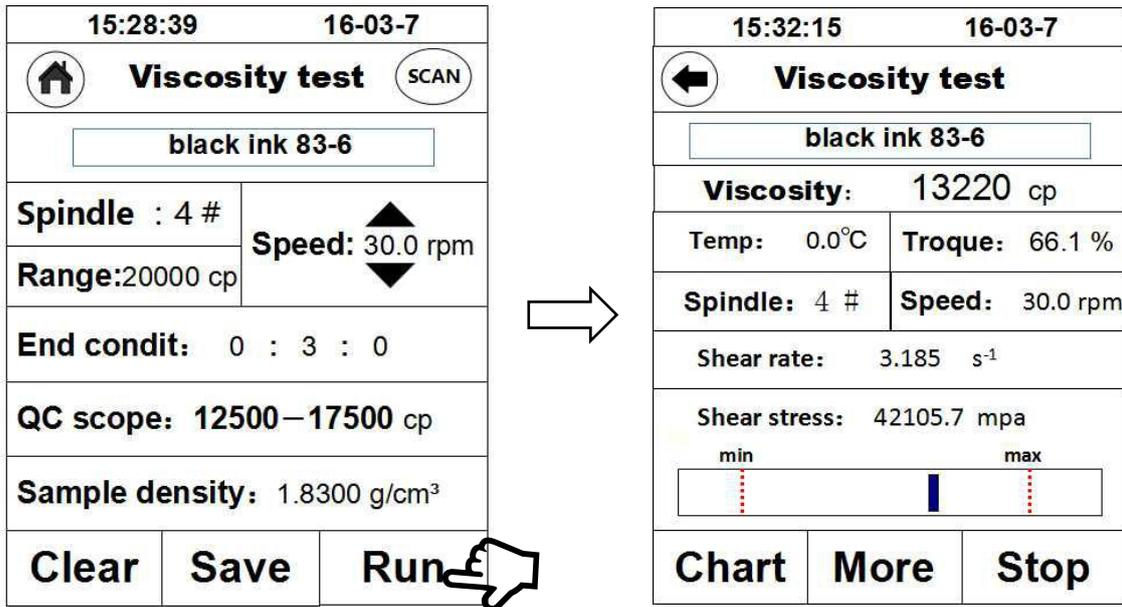

Fig. 21
1.4 Start testing: after parameters are well set, click “Run” to start testing and switch the interface to the testing interface (Fig. 21).